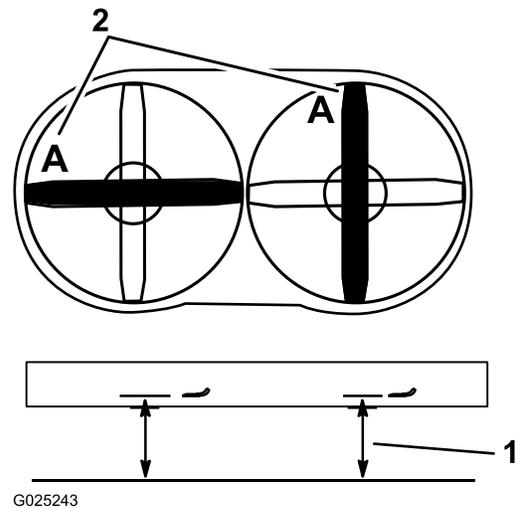

Figure 71
3. Rotate 1 blade as shown in Figure 71.
4. Measure from a level surface to the cutting edge at position A of the blade (Figure 71). Note this dimension.